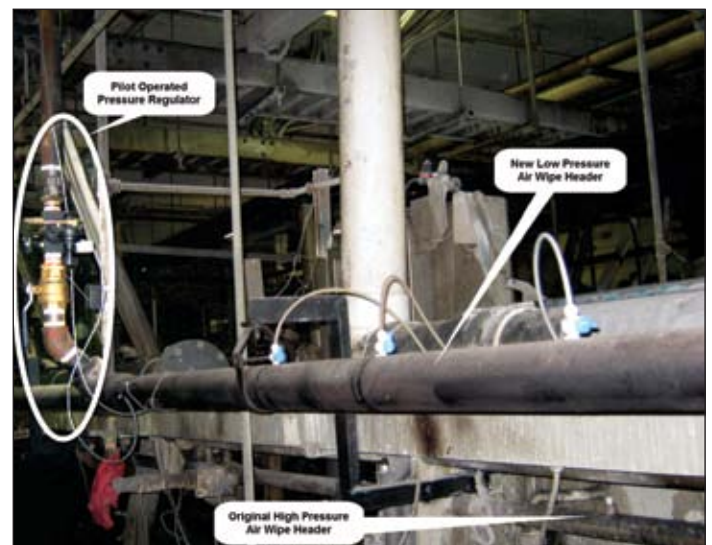
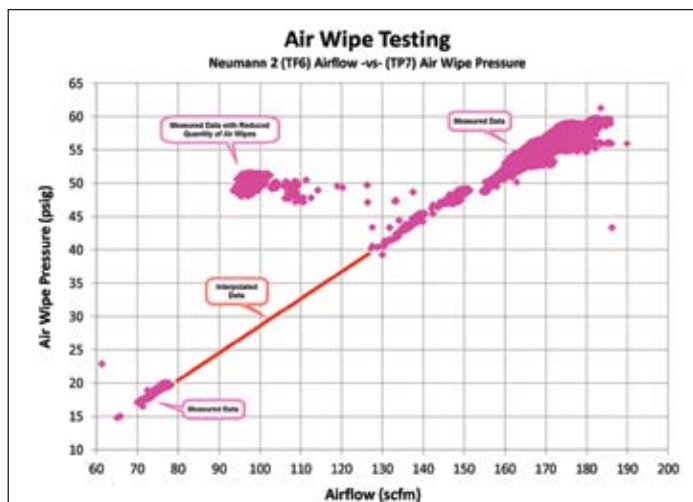

Figure 1 — Air Wipe Test, Pilot Operated Regulator and New LP Air Wipe Header
Figure 2 — Air Wipe Test Results, Air Consumption -vs- Pressure
During the compressed air system assessment one production line was selected for air wipe testing. A 3" diameter Low Pressure (LP) compressed air header was installed in parallel with the existing 1" plant air pressure header (see Figure 1). A high flow precision pilot operated pressure regulator was installed to allow adjustment of air pressure to the LP air wipe supply header. Tests were performed to measure the air pressure –vs– airflow relationship while carefully monitoring the process chemical tanks and product quality. The data in Figure 2 is a scatter plot of air wipe supply pressure versus measured compressed air consumption. Operating data was measured for pressure ranging from 40 to 60 psig and non operating data was taken at 15 to 20 psig with interpolated air consumption calculated between 20 and 40 psig.